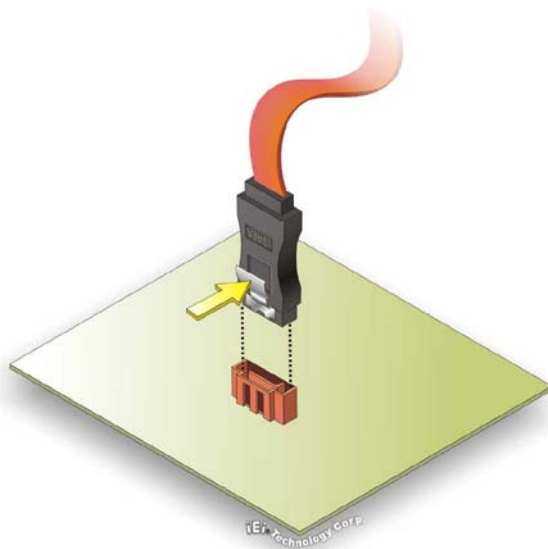

Figure 4-7: SATA Drive Cable Connection
Step 2: Insert the cable connector. Press the clip on the connector at the end of the SATA cable and insert the cable connector into the on-board SATA drive connector. See **Figure 4-7**.